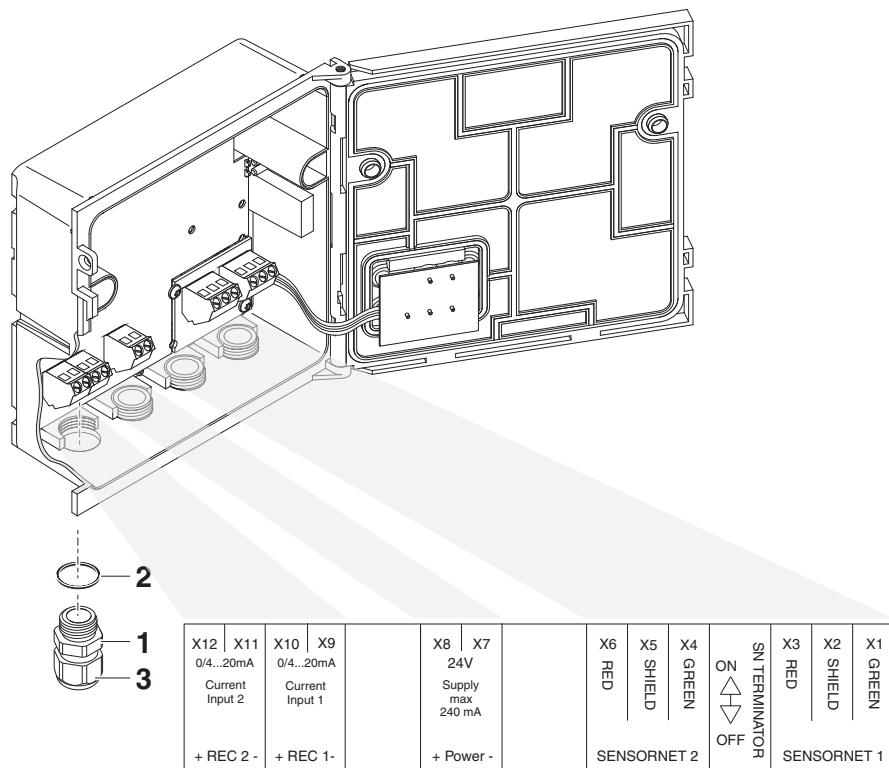

Fig. 3-1 Terminal strip MIQ/IC2
| 3 | Screw the cable gland (pos. 1 in Fig. 3-1) with the sealing ring (pos. 2) into the module housing. |
| 4 | Loosen the coupling ring (pos. 3 in Fig. 3-1). |
| 7 | Tighten the coupling ring (pos. 3 in Fig. 3-1). |